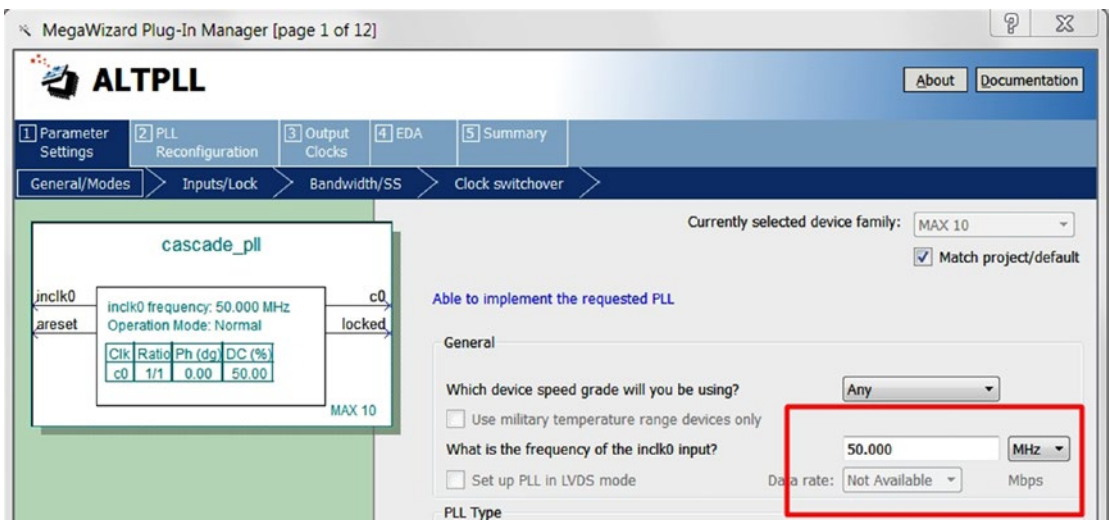
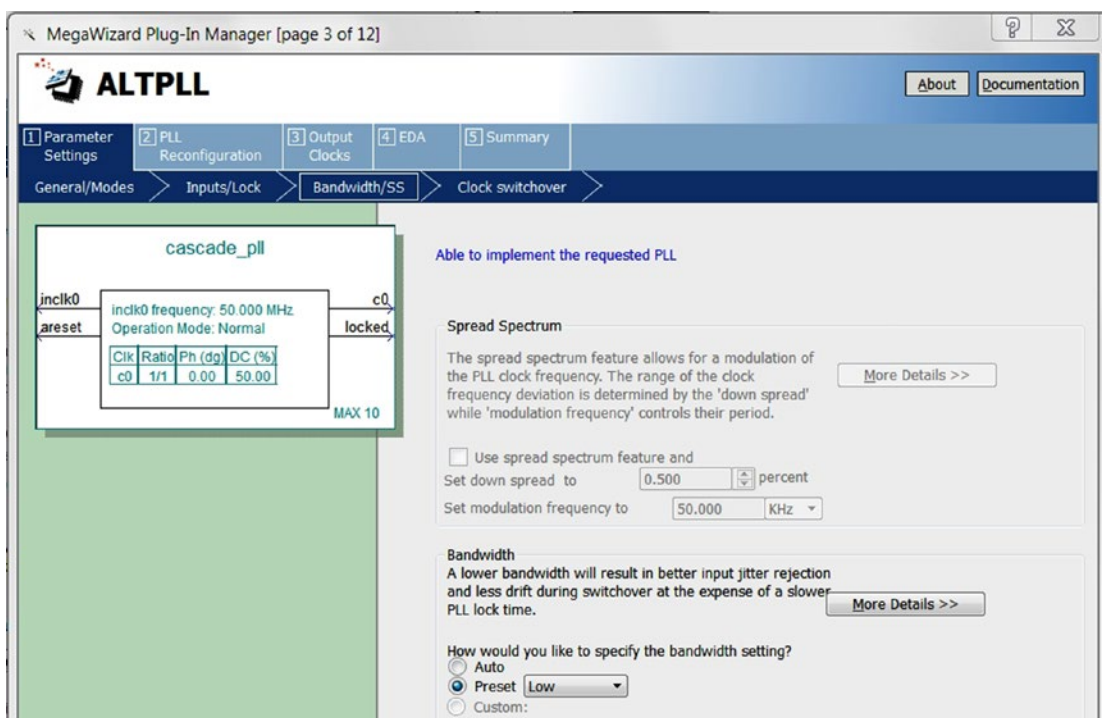

Figure 12-24. MegaWizard Plug-In Manager for Cascade IP—1
Figure 12-25. MegaWizard Plug-In Manager for Cascade IP—2
Step 2: A MegaWizard Plug-In Manager window will appear as Figure 12-24. Under the **1: Parameter Settings**, on the **General/Modes** tab, change the **inclk0** input to **50 MHz** which is the on board clock frequency. On the **Bandwidth/SS** tab in Figure 12-25, change the Bandwidth Setting to **Preset Low**.